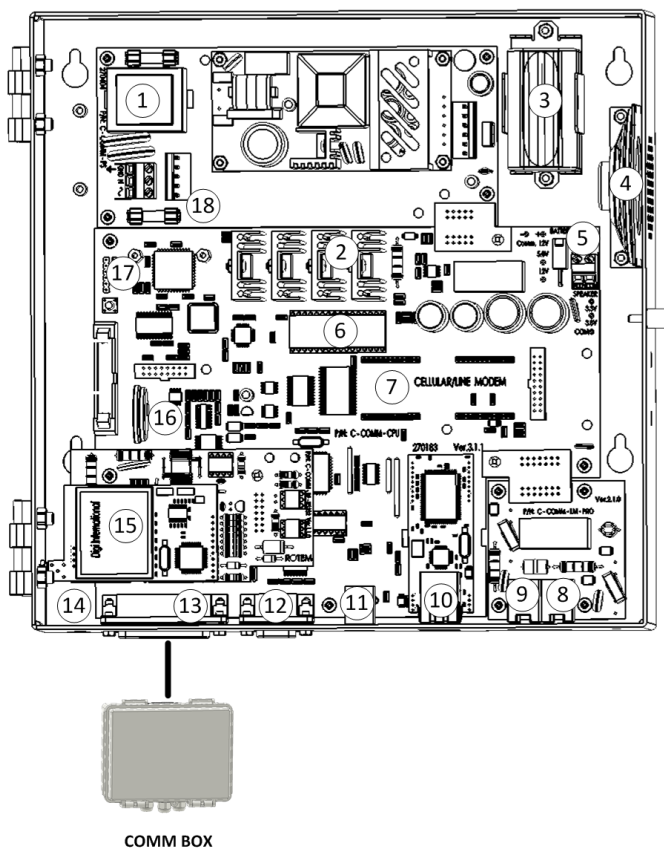

Figure 1: External Connection Box Connector and Internal Components (Sample) Board
NOTE: *Open the Communicator and verify that all required components are physically installed. Figure 1 illustrates a sample Communicator and its components.*
Figure 1 key
1. Connect the External Connection Box to the Communicator using the 25 pin connector as shown in Figure 1.